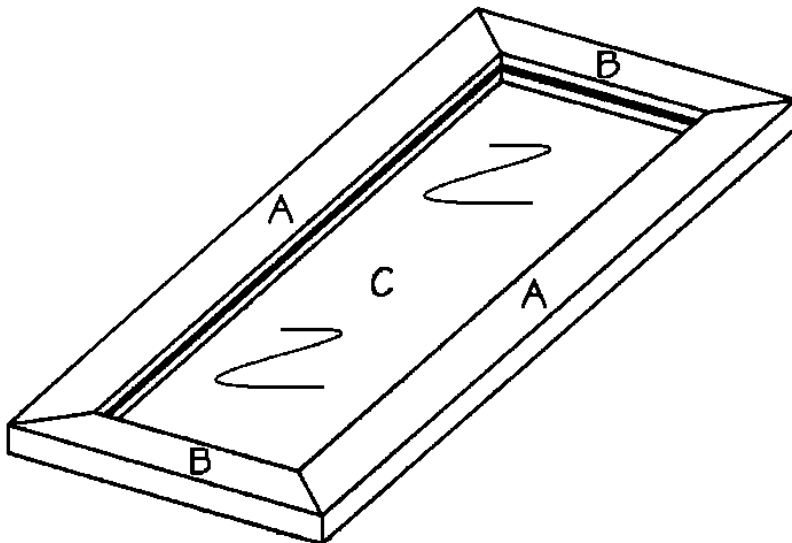

Figure 3
6. Place two vertical sides (A) on a level surface, parallel to each other and 5-1/2" apart, as shown in *Figure 3*. Fit two horizontal sides (B) between the ends of the vertical sides (A), matching miters. Fit one side glass (C) into the dadoes cut in all four sides. Make certain that the assembly is square. Apply glue to the miters, and use corrugated fasteners across each of the corner joints to secure them. You may choose to clamp these pieces together while you drive 1-1/2" 4d finishing nails into the edge near each corner and across the miter joint. Use two opposing nails at each joint.
6. Place the two doors sides (G) on a level surface, parallel to each other and 14-7/8" apart, in the same manner as shown in *Figure 3*. Fit two door top/bottoms (H) between the ends of the door sides (G) matching miters. Fit one door glass (I) into the dadoes cut in all four pieces. Make certain that the assembly is square, and use corrugated